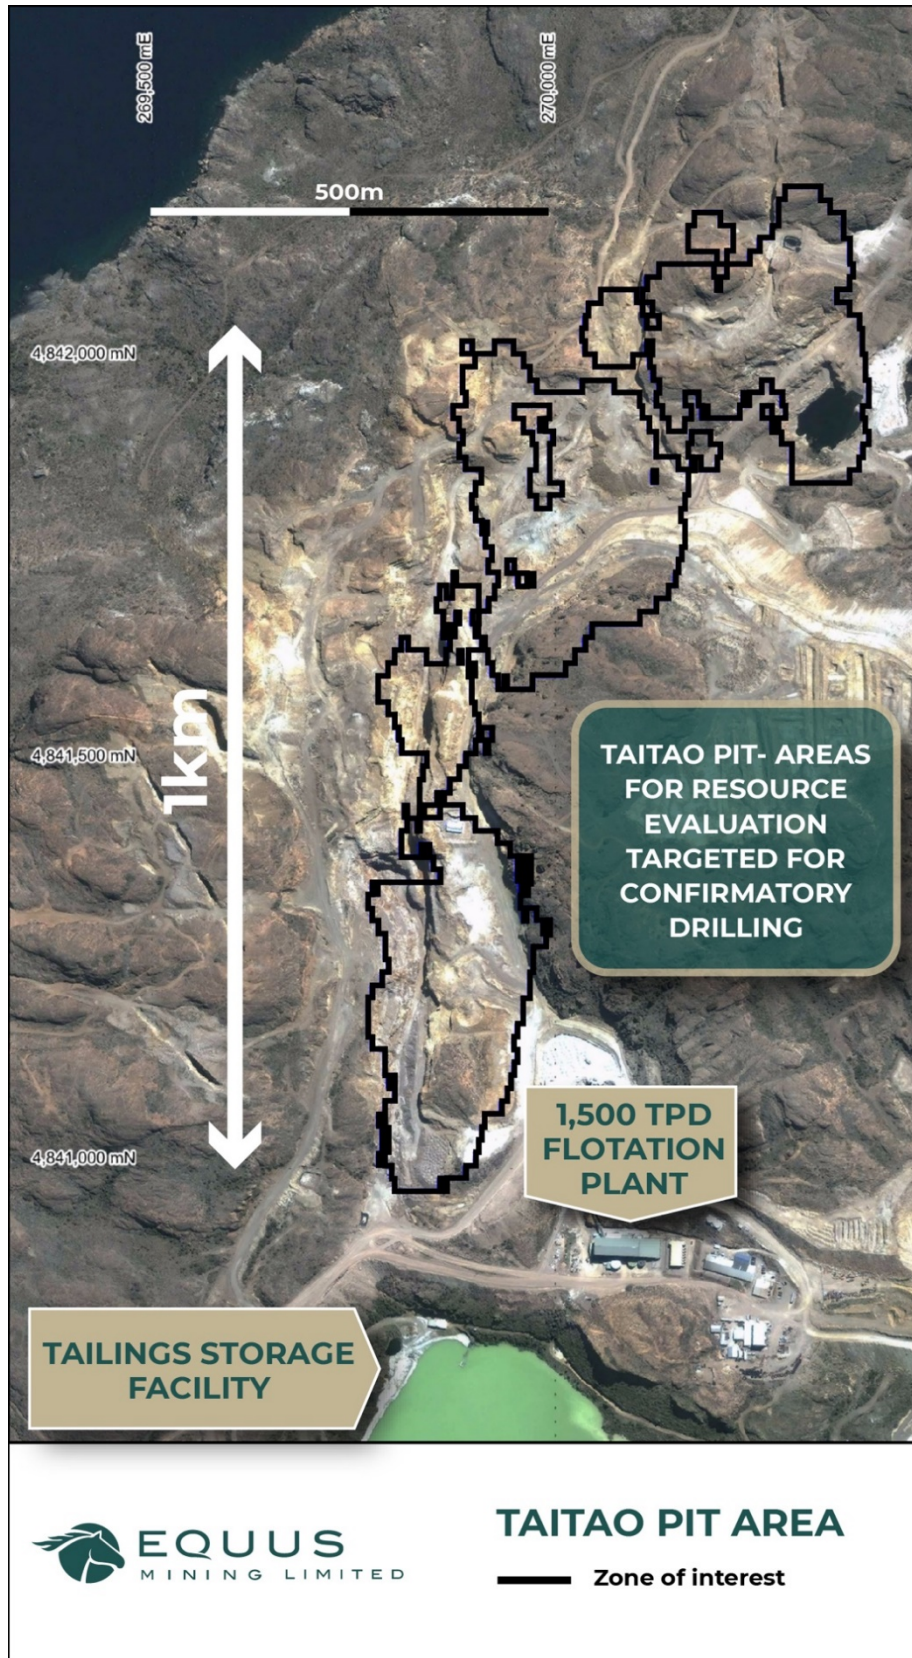

Figure 2 – Taitao Pit area – plan showing location of Taitao Pit, zone of interest for resource evaluation and flotation plant infrastructure
- ▶ The Company continues to progress its dual-track Greenfields/Brownfields exploration strategy with the commencement of a 1st stage 1,500m confirmatory drill program within and in the periphery of the historic, shallow Taitao Pit (Figure 2).